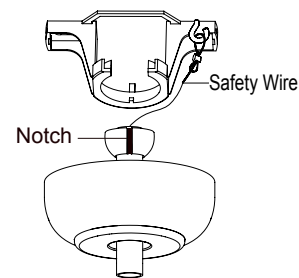

Fig. 6
6. Install the safety cable to the ceiling by the screw and washer, and carefully lift the fan assembly up to the hanging bracket. Seat the down rod ball assembly into the bracket, ensuring the notch of the hanger ball is positioned on the stopper of the hanger bracket to prevent the fan from rotating when in operation. Refer to Fig 6.